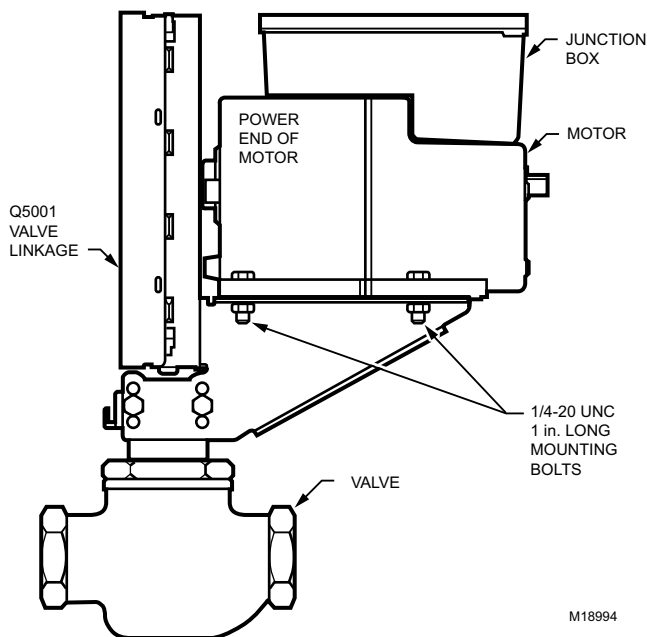

Fig. 4. Mounting the Motor on a Q5001 Valve Linkage.
3. Attach the motor to the bracket with the four bolts provided (See Fig. 4).